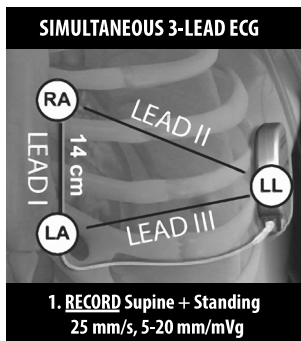

Figure 2. Typical Placement of Surface ECG Electrodes for Patient Screening
1. In order to perform the patient screening process, a surface equivalent of the subcutaneous sensing vectors must be obtained. It is important to collect the surface ECG in the location that represents the intended position of the implanted S-ICD System. When placing the S-ICD System in the typical implant location, the surface ECG electrode should be positioned as follows (Figure 2 Typical Placement of Surface ECG Electrodes for Patient Screening on page 16). If a non-standard S-ICD System subcutaneous electrode or pulse generator placement is desired, the surface ECG electrode locations should be modified accordingly.